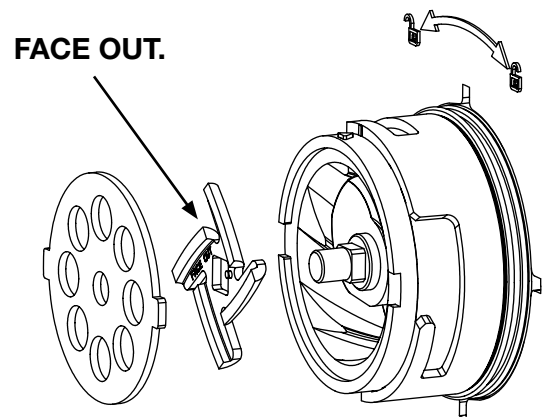

Fig. 5
5. Install the Extrusion Grinder Blade and then the Extrusion Die as shown in Fig 4. Note: Flat edge of Extrusion Grinder Blade should be against the Extrusion Die as Shown in Fig 5.